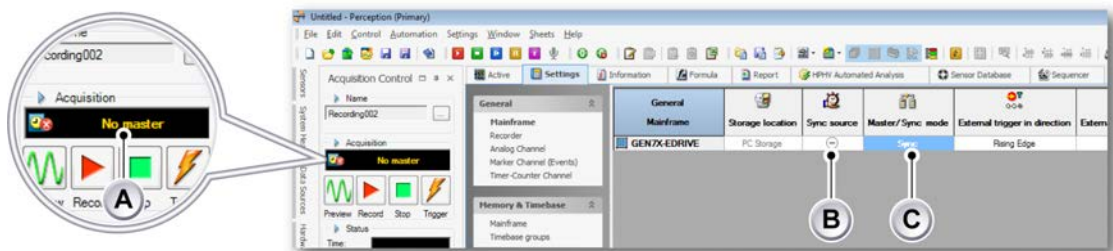

Figure 14.25: Status - No master detected
- **No master** (see Figure 14.25)